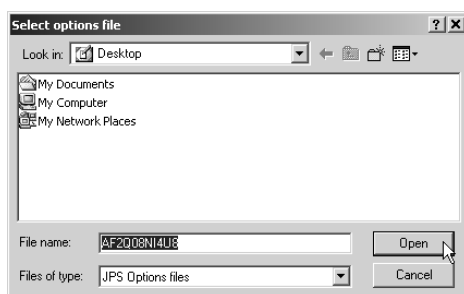

Figure 3-17. Load OAF
3. Navigate to the location of the new Option Authorized File. OAFs have .jpo or .tpo extensions and are unique to each receiver (Figure 3-17).
4. Select the appropriate file and click **Open** (Figure 3-17). The new receiver option loads onto the receiver and the Option Manager table updates.